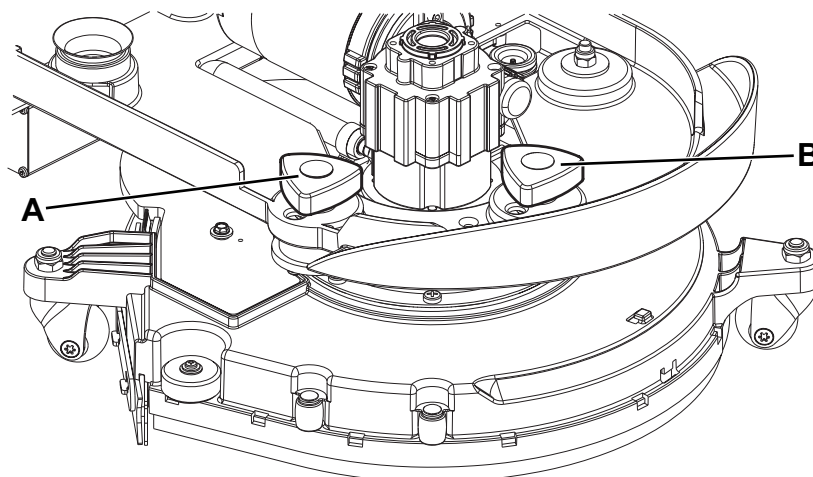

Figure 6
2. Adjust the machine speed with the handwheel (A, Fig. 6) according to the following procedure:
3. If it is difficult to keep the machine moving straight-forwardly because it deviates to the left or to the right, adjust the handwheel (B) by turning it clockwise or counter-clockwise.